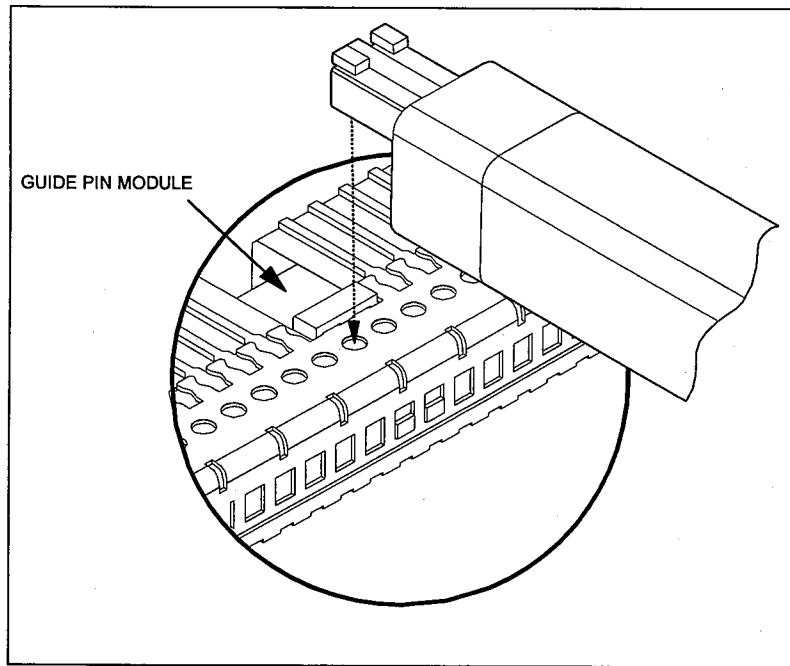

Fig. 3
- 3) On the HDM Daughter Card Removal Tool the opposite side of the mounting head from the rectangular pins has two round pins sticking out, place these pins in two holes on the top of the stiffener and position the push bar against the lip on the guide module. See Fig. 3.